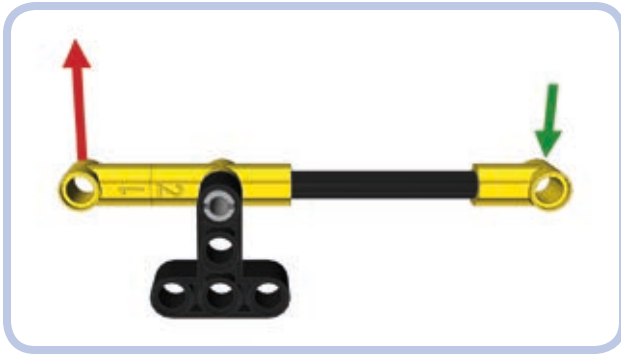

Figure 7-5: Class 1 lever with the fulcrum in the middle and the effort (green) and load (red) at its ends
- * **Class 1** (see Figure 7-5): The fulcrum is located in the middle of the lever and the load and effort at its ends. This is the only class of lever where effort and load are applied in opposite directions (that is, to lift a load up, you have to apply effort downward). Examples: a seesaw or a crowbar.